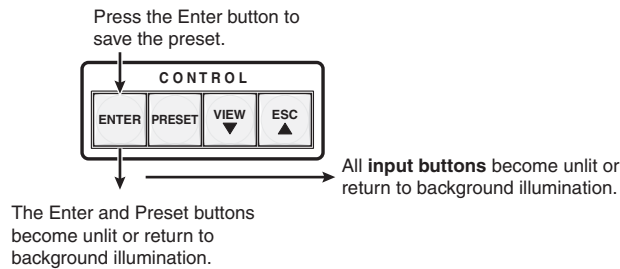

Figure 3-39 — Press the Enter button
- Press and release the Enter button (figure 3-39). The current configuration is now stored in the selected memory location.